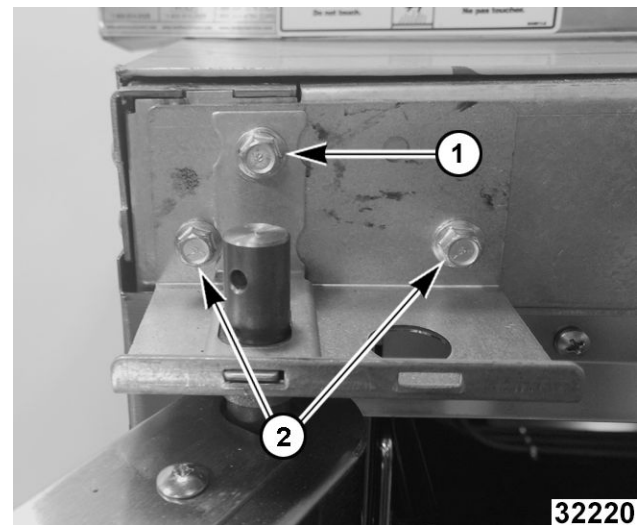

Fig. 44
6. While supporting door, remove hex head bolts holding upper bearing retainer (1, Fig. 44) and upper shaft bracket (2, Fig. 44).